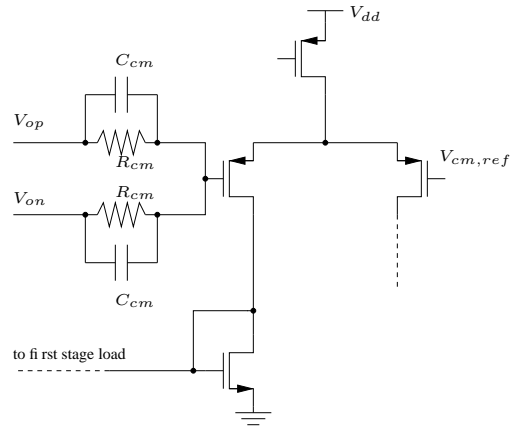

Figure 5: Common mode feedback structure for two stage opamp
3. Turn the two stage opamp in P1 above into a fully differential version. Use the circuit in Fig. 5 for common mode feedback. Report the same quantities as above.